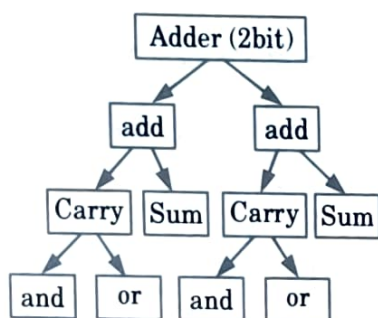

Fig. 1.4.1.
3. It is important for the simplicity of design that the hierarchies in different domains be mapped. Fig. 1.4.1 shows the structural decomposition of a CMOS 2 bit adder into its components.